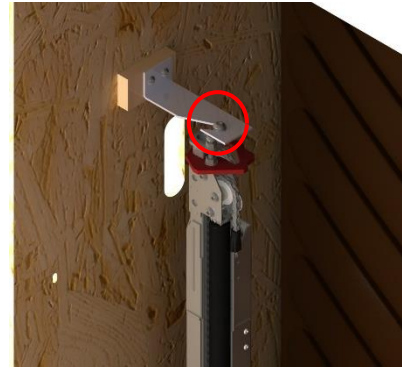

Figure 30
- 10) For each jack, use the 7/32" (5.5 mm) Allen key to loosen—but not fully remove—the 3/8"-24 x 1" bolt holding the jack to the bracket. There is one bolt per side. **Do not discard this bolt and bushing; they are required to assemble the COVANA cover.** (Figure 30)